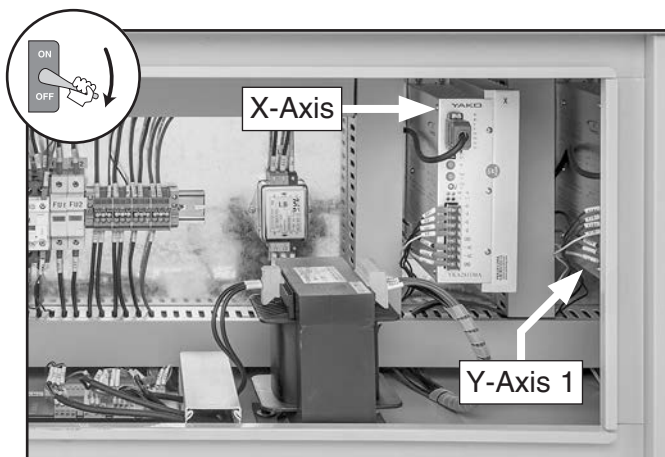

Figure 82. Left electrical cabinet stepper drivers location.
2. Open electrical cabinet and locate (5) stepper drivers (see **Figures 82–83**).